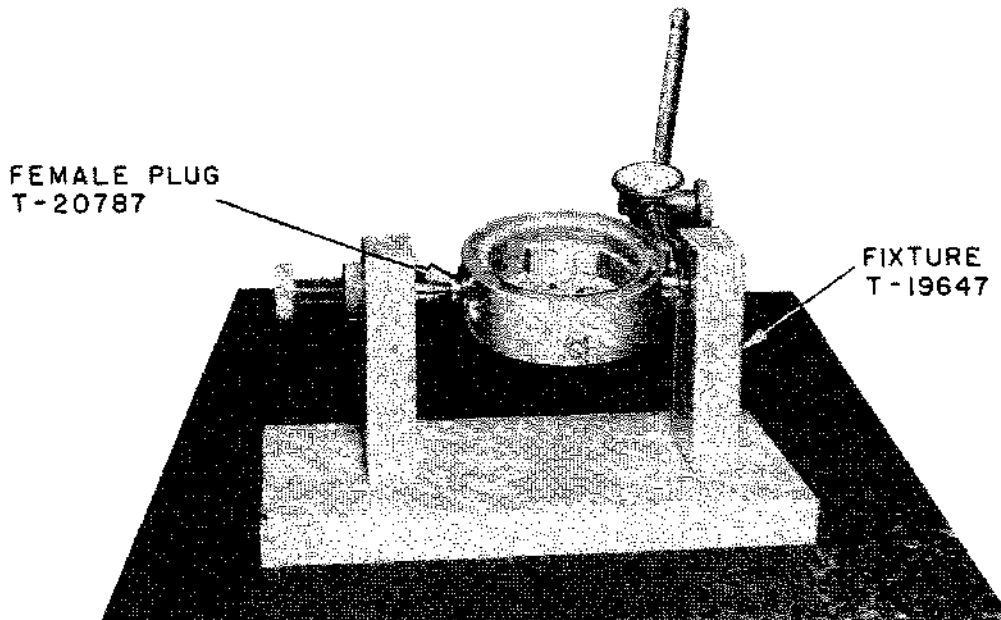

FIGURE 35 CHECKING THE CONCENTRICITY OF THE AIR PIVOT IN THE ROTOR HOUSING. TOLERANCE, .0005 INCH.
2. Place gyro housing in fixture T-19647 and screw in adjusting screw until housing is free to turn without end-play and without binding. Indicate large diameter of pivot, turning the housing completely around. The indicator should not show a greater variation than .001" for one complete turn. Turn housing 45 degrees on each side of the vertical (its operating position) and indicate as before. The tolerance in this case must be within .0005". (See Fig. 35.)